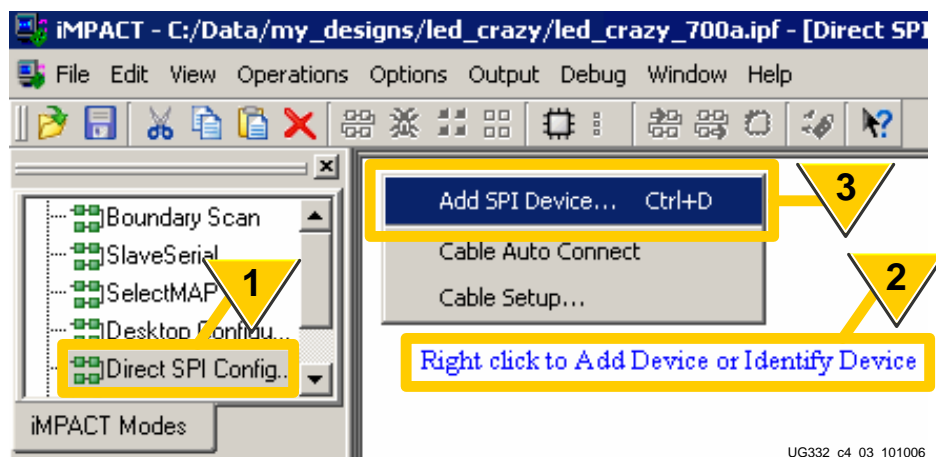

Figure 12-6: iMPACT Supports Direct Programming for SPI Serial Flash Memories
1. Click **Direct SPI Configuration** from within iMPACT, as shown in Figure 12-6.